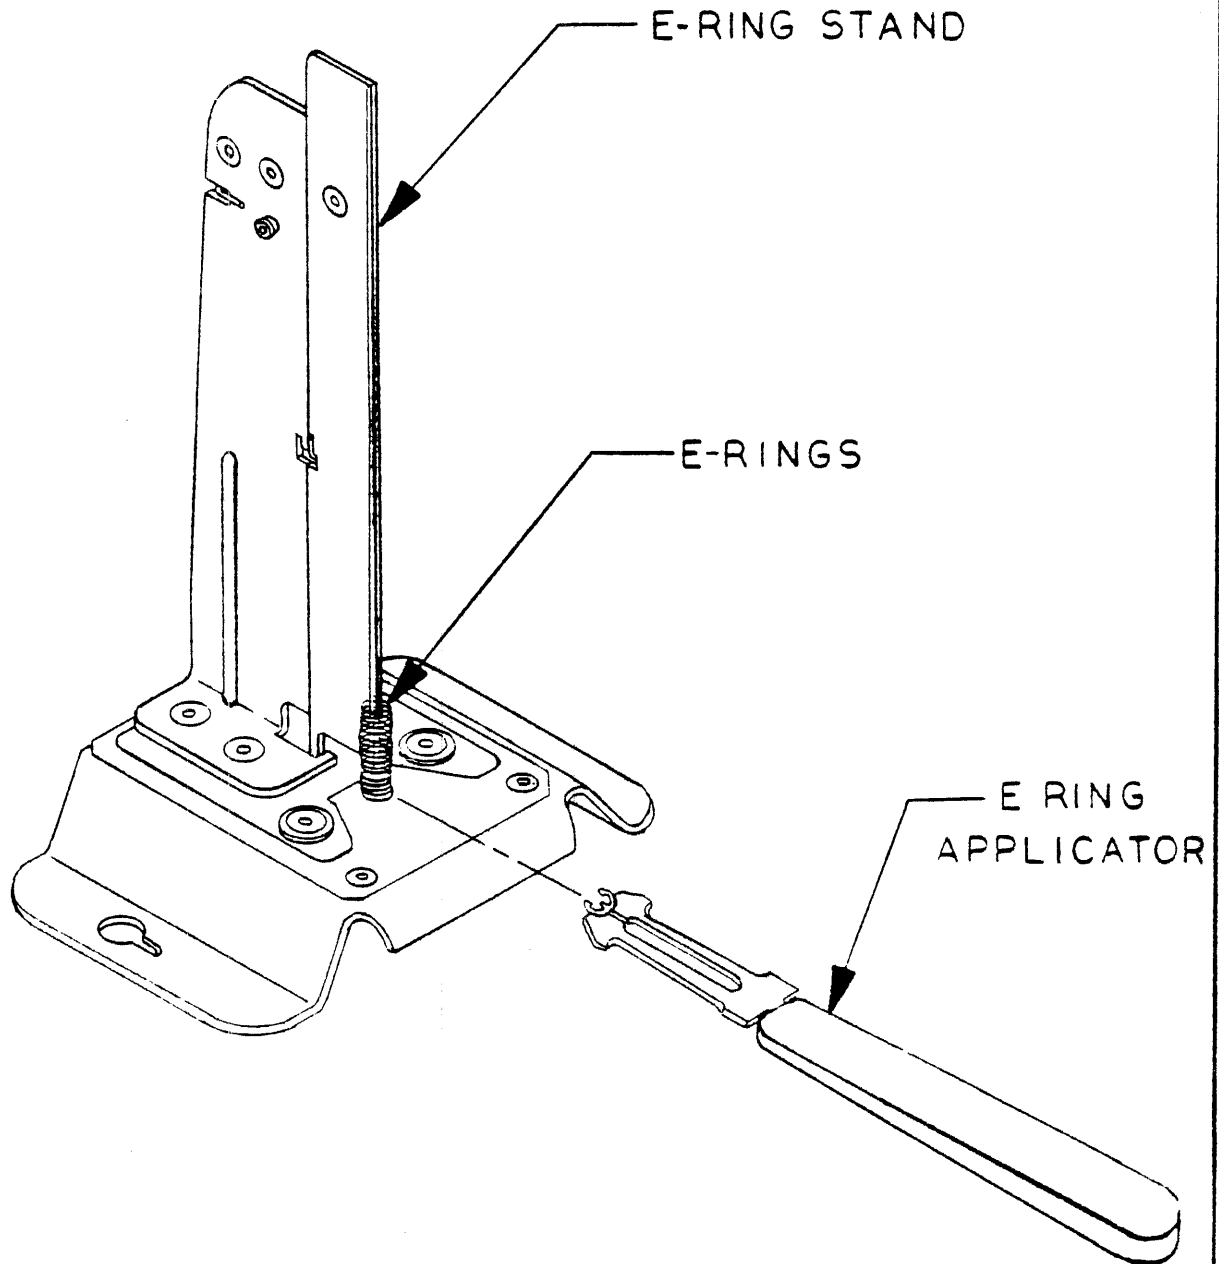

FIGURE 3. THE E RING STAND & THE E-RING APPLICATOR.
- 7.2.3 Insert an e-ring from the e-ring stand into the e-ring applicator. (See Fig. 3.)